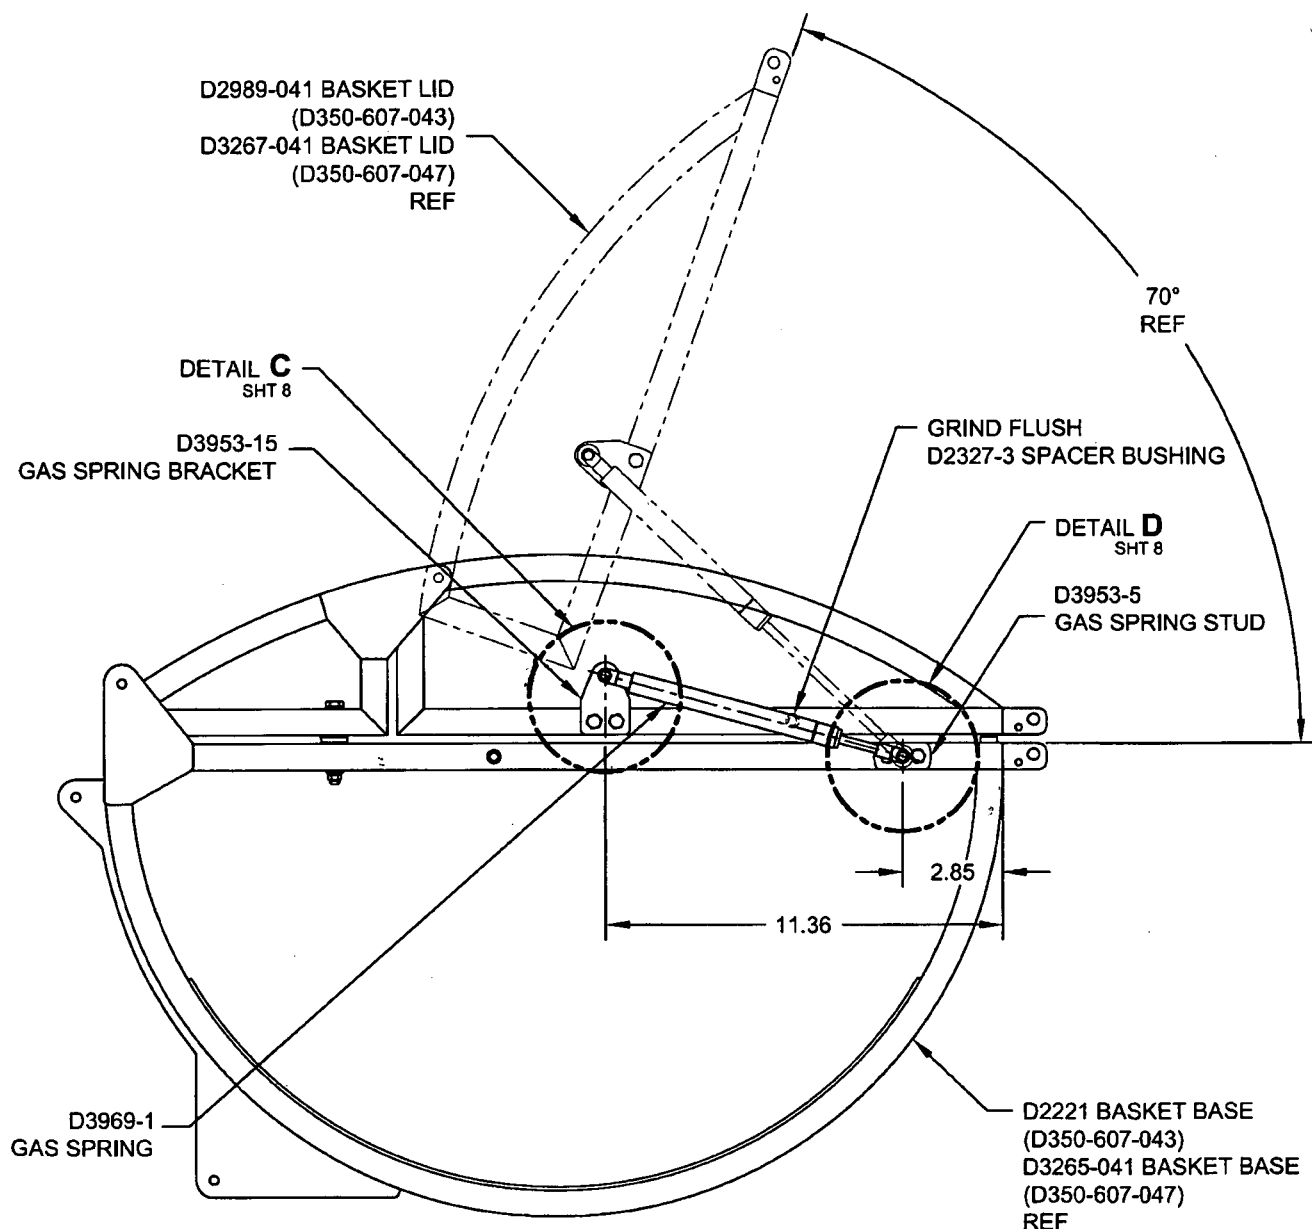

FIGURE 2
- 2) GRIND FLUSH THE D2327-3 SPACER BUSHING ON THE END OF THE BASKET WHERE THE GAS SPRING KIT IS BE INSTALLED AS SHOWN IN FIGURE 2 (IT IS PERMISSIBLE TO GRIND ALL 4 SPACERS FLUSH). TOUCH UP PAINT PER ICA-D350-607 REV. 0 SECTION 5.1 ITEM 4.
- 3) LOCATE THE D3953-15 GAS SPRING BRACKET AS SHOWN IN FIGURE 2. TRIM STEEL MESH LOCALLY AS REQUIRED. TOUCH UP PAINT PER ICA-D350-607 REV. 0 SECTION 5.1 ITEM 4. TRANSFER MARK AND DRILL 2X Ø0.194 HOLES THRU THE BASKET LID SQUARE TUBE STRUCTURE AS SHOWN IN DETAIL C. INSTALL THE D3953-15 GAS SPRING BRACKET & D3953-17 GAS SPRING SPACER USING 2X AN3C15A BOLT, 2X NAS1149C0332 WASHER & 2X MS21043-3 NUT AS SHOWN IN VIEW G-G.
- 4) LOCATE THE D3953-5 GAS SPRING STUD AS SHOWN IN FIGURE 2. TRIM STEEL MESH LOCALLY AS REQUIRED. TOUCH UP PAINT PER ICA-D350-607 REV. 0 SECTION 5.1 ITEM 4. TRANSFER MARK AND DRILL 2X Ø0.194 HOLES THRU THE BASKET BASE SQUARE TUBE STRUCTURE AS SHOWN IN DETAIL D. INSTALL 2X AN3C11A BOLT, 2X NAS1149C0332 WASHER & 2X MS21043-3 NUT AS SHOWN IN VIEW H-H. INSTALL THE ROD END OF THE D3969-1 GAS SPRING ONTO THE D3953-3 GAS SPRING STUD USING 1X D3953-9 GAS SPRING WASHER, 1X NAS1149C0432H WASHER, 1X AN310-4 CASTELATTED NUT & 1X MS24665-212 COTTER PIN AS SHOWN IN VIEW H-H. INSTALL COTTER PIN PER MS33540 OR AC43.13 CHAPTER 7-127 .